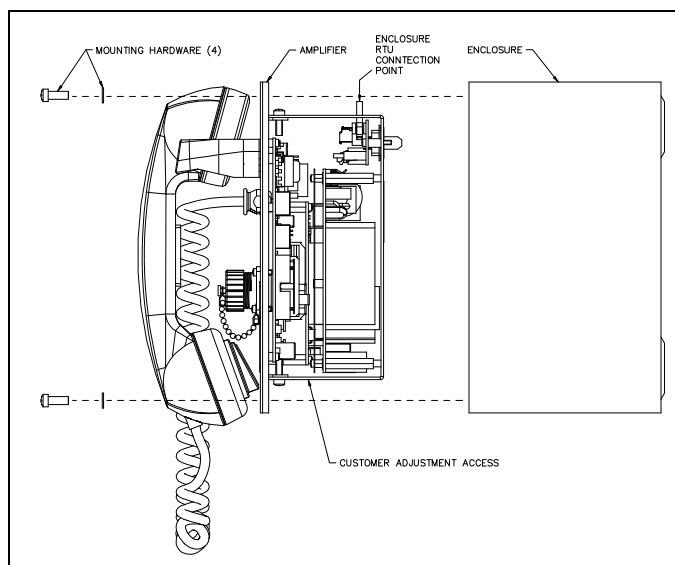

Figure 1. ICS AC Page/Party® Plug-in Amplifier Installation
2. Attach the amplifier to the enclosure with the provided hardware (see Figure 1).